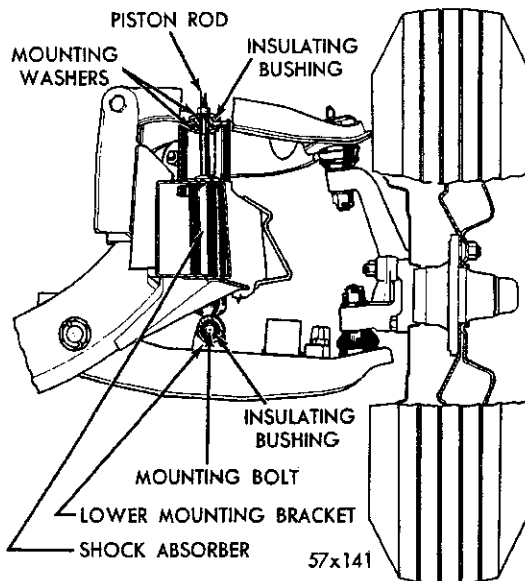
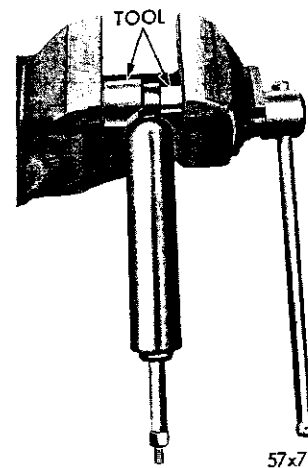

Fig. 11—Front Shock Absorber (Typical Installation)
Fig. 12—Replacing the Shock Absorber Lower Bushing
(1) Refer to Figure 11 and disconnect the upper end of the shock absorber piston rod.
(2) Compress the shock absorber by pushing the rod through the shock absorber support.
(3) Remove the lower mounting bolt and remove the shock absorber.
(4) If the upper bushing appears worn, damaged or deteriorated remove it by first pressing out the inner stud sleeve, then prying-out or cutting-out the rubber bushing. (This bushing takes some permanent set so that once removed it should be replaced.)
(5) If the lower bushing is to be replaced, remove it from the shock absorber, using Tool C-3553 to press on the **outer** sleeve of the bushing, (Fig. 12). (Pressing on the inner sleeve will not remove the outer sleeve from the shock absorber).